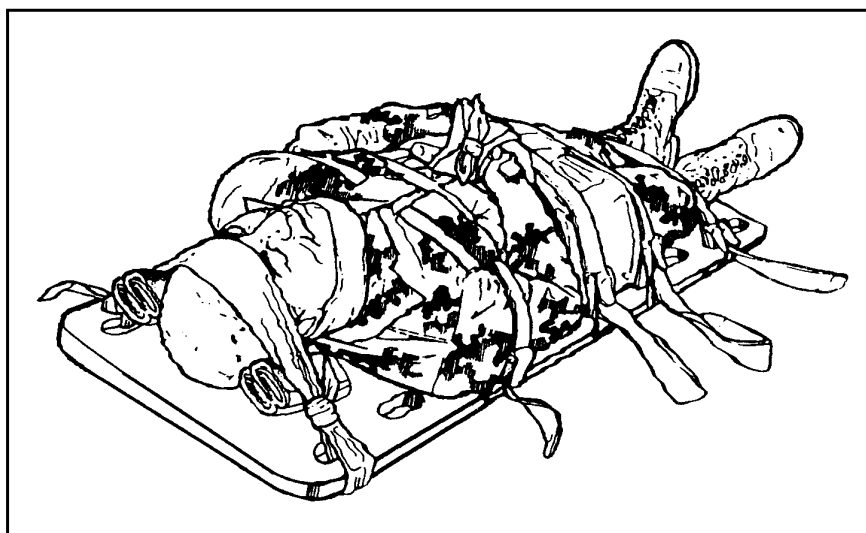

Figure 3-24
- (1) Apply head supports.
- (2) Use two rolled towels, blankets, sandbags, or similar material.
- (3) Place one close to each side of the head.
- (4) Using a cravat-like material across the forehead, make the supports and head one unit by tying to the board. (See Figure 3-24.)